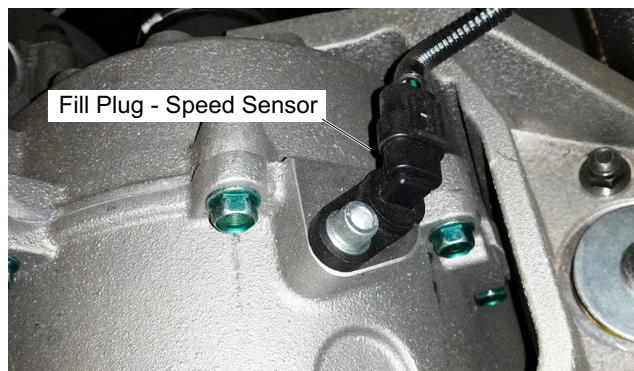

Fig. 15 Fill Plug at Speed Sensor
1. Remove the fill plug from the PTO (driver side of vehicle) (Ref. Fig. 15).